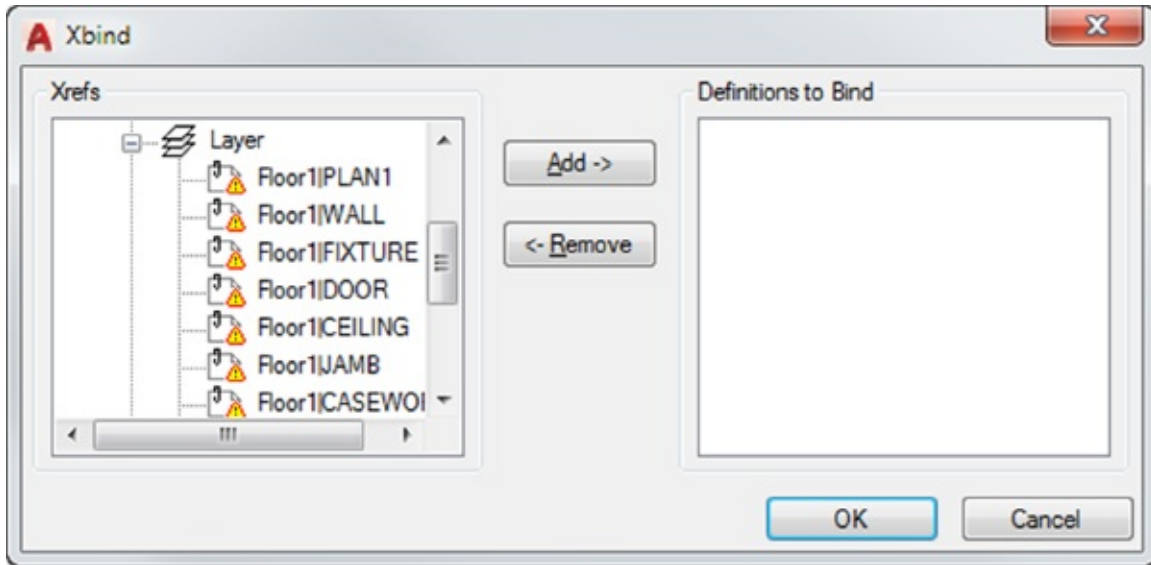

FIGURE 14.13 The expanded Layer list
4. Click the plus sign next to the Layer item. The list expands further to show the layers available for binding (see Figure 14.13).